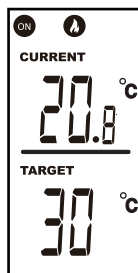

Fig.1
Press ⑤ or ⑥ button to set the target temperature. When the target temperature is higher than the current temperature (Fig. 1):
3. The red LED indicator ⑦ is on.